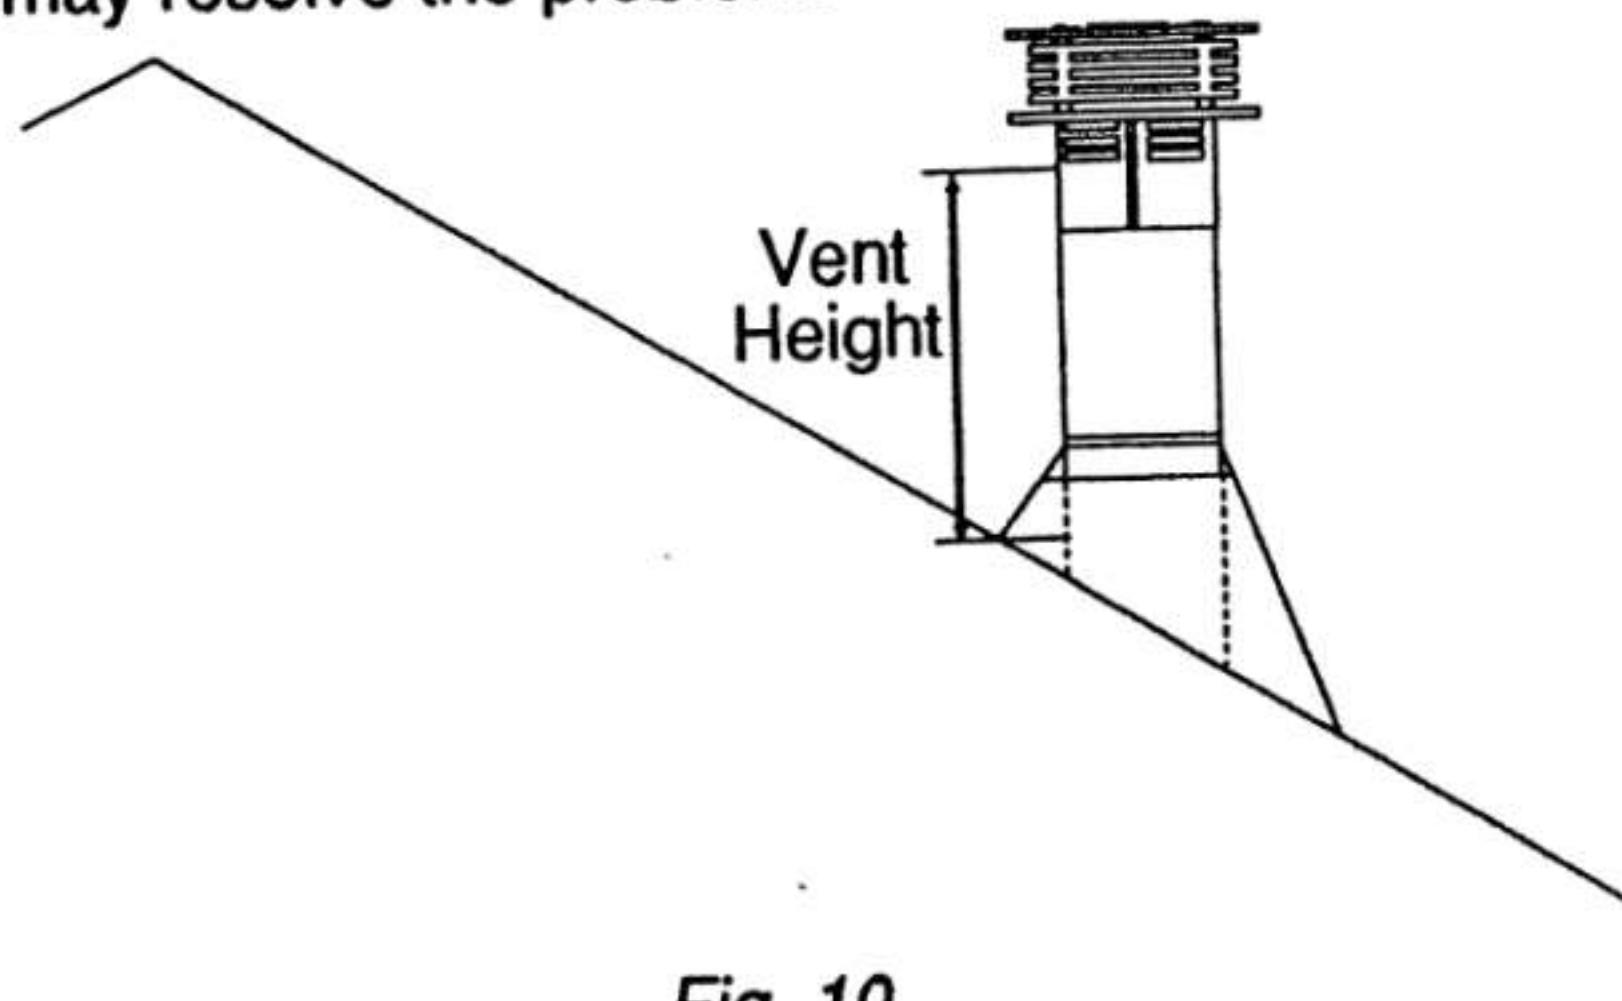

Fig. 10
- 7) Continue to add pipe sections until the height of the Vent Cap meets the minimum building code requirements described in Fig. 10. Note that for steep roof pitches, the vent height must be increased. A poor draft, or down drafting, can result from high wind conditions, nearby trees, adjoining rooflines, steep pitched roofs, and other similar factors. In these cases, increasing the vent height may resolve the problem.